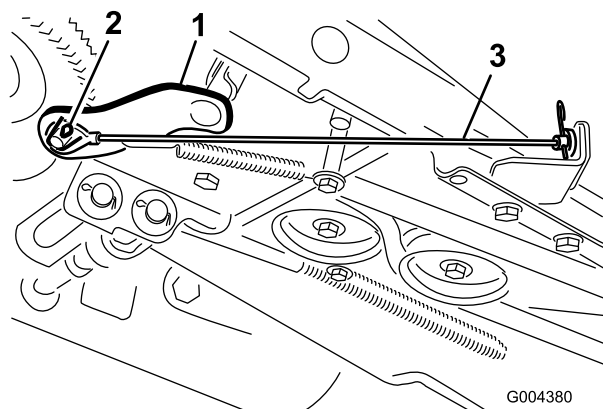

Figure 2
4. Remove and discard the cotter pin and flat washer that secure the loop end of the deck engagement cable to the lower PTO lever (Figure 2).